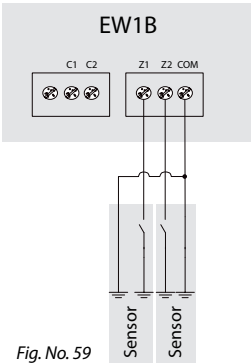

Fig. No. 59
- Connect the circuit as indicated in Fig. No. 59.